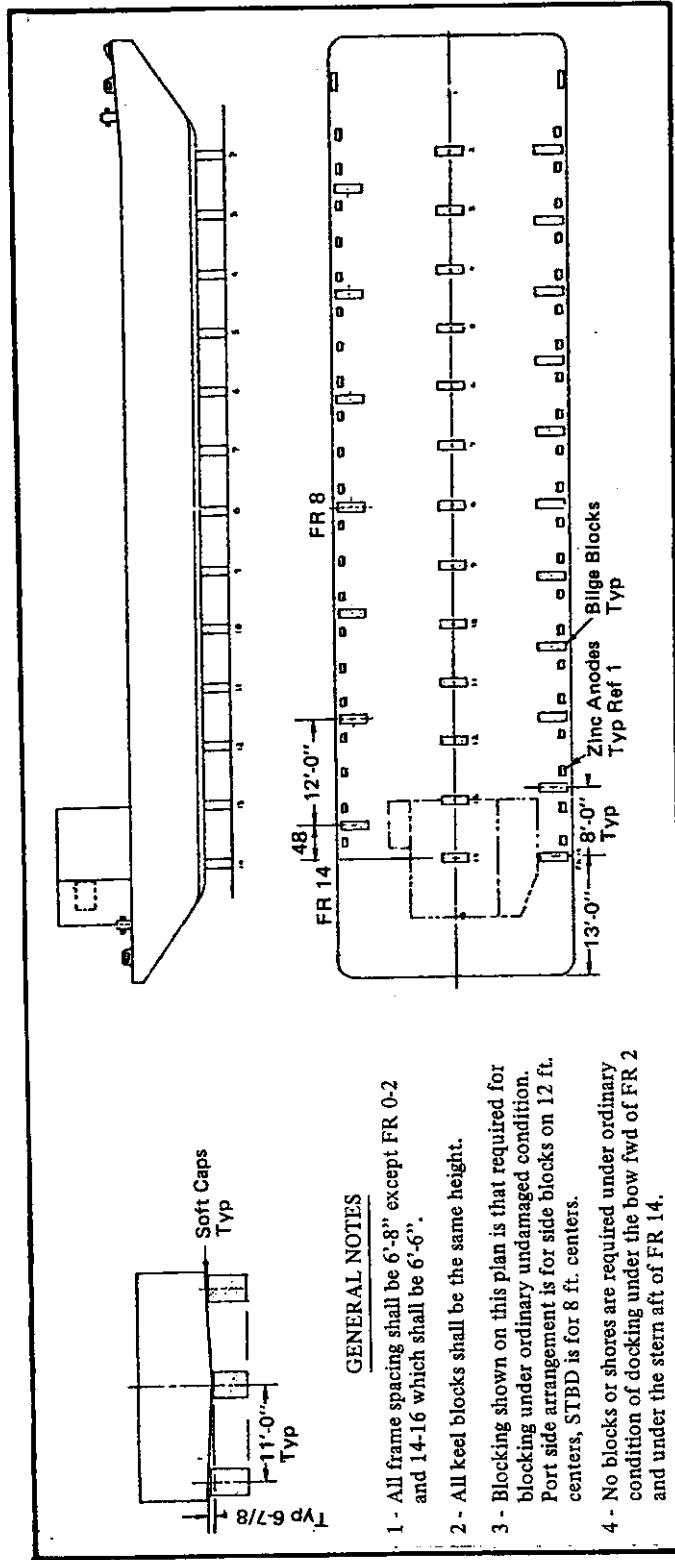

FIGURE 5-3
5.24 SWOB BARGE DOCKING PLAN. A docking plan is presented in Figure 5-3. Note that the block spacing shown for the port side or the starboard side may be used.
A.2.6.4 Sacrificial Anodes. The Anodes are located on the hull bottom. (See Figure 5-3).